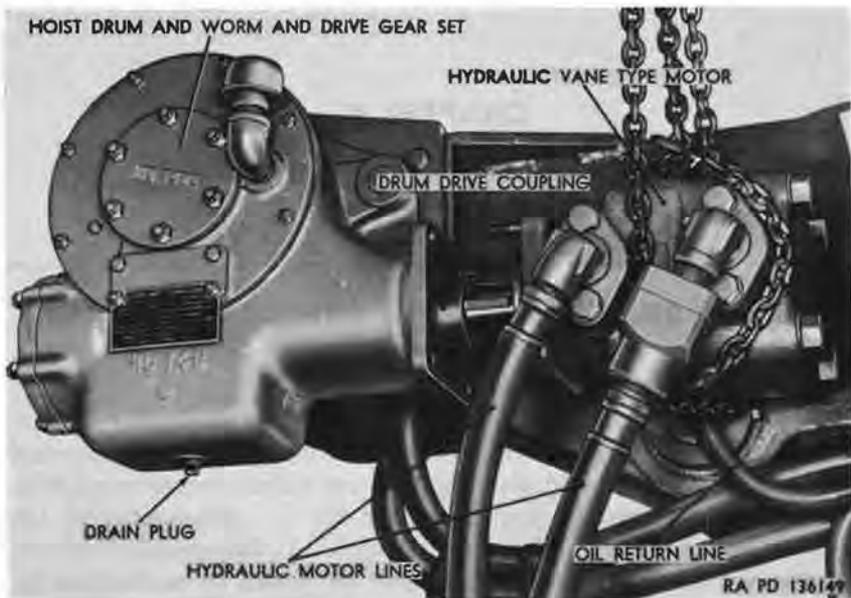

Figure 4. Hydraulic vane-type motor removal.
(fig. 4)
*a. General.* Overhead hoisting equipment with a capacity of 600 pounds must be used to remove the hoist drum and worm and drive gear set (fig. 4). Add an additional 150 pounds if the hydraulic vane-type motor is removed with the assembly.